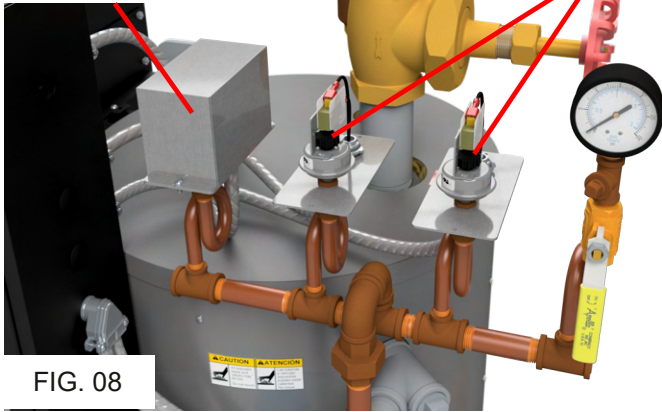

FIG. 08
- Ranco Controls (Fig. 08):** Turn the range adjustment screw clockwise to increase the pressure and counter clockwise to decrease the pressure.